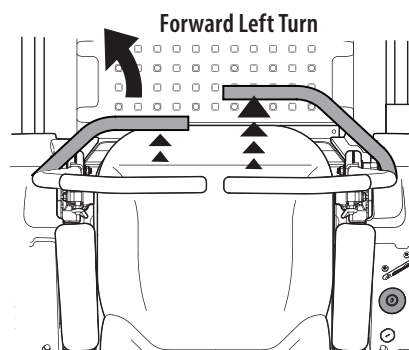

Figure 27
- To turn to the left, move the left drive control lever rearward of the right lever (Figure 27).